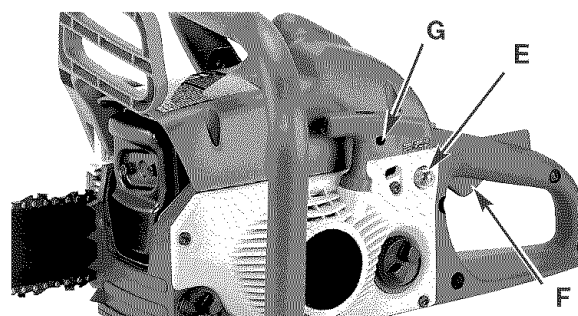

Fig. 6
6. Fully press and release the primer bulb (E) 10 times, slowly. Some amount of fuel should be **visible in the primer bulb** (Fig. 6). If you can't see fuel in the bulb, press and release the bulb as many times as it takes before you can see fuel in it.
8. Pull the rope with a **controlled and steady motion 4 times**. Then move the blue lever (D) all the way in (Fig. 6).
1. locate idle adjustment screw (G). (fig. 6)